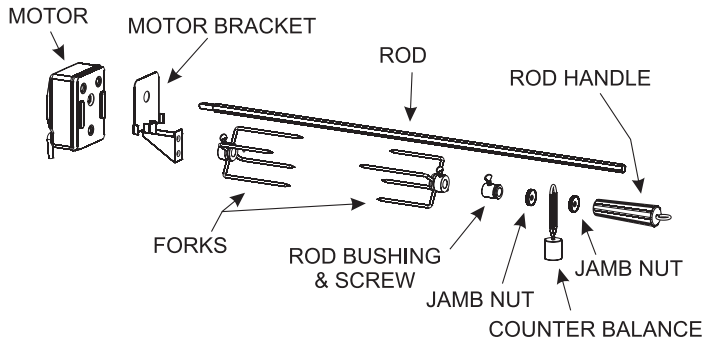

Figure 9
10. Remove all components from the carton. See Figure 9.